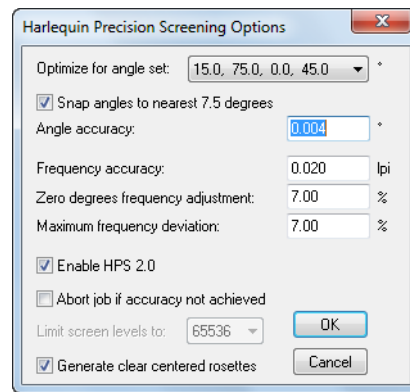

Figure 6.6 Harlequin Precision Screening Options dialog box
- When using HPS, the RIP produces the number of gray levels required to attain the specified accuracy of screening, as set in the HPS Options dialog box, shown in Figure 6.6, page 180.